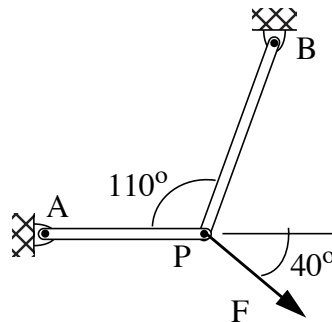

Fig. P7.8
7.8 A force $F = 20\text{ kN}$ is applied to pin shown in Fig. P7.8. Both bars have a cross-sectional area of $A = 100\text{ mm}^2$ and a modulus of elasticity $E = 200\text{ GPa}$. Bar AP and BP have lengths of $L_{AP} = 200\text{ mm}$ and $L_{BP} = 250\text{ mm}$ respectively. Using virtual force method determine the movement of pin in the direction of force F .